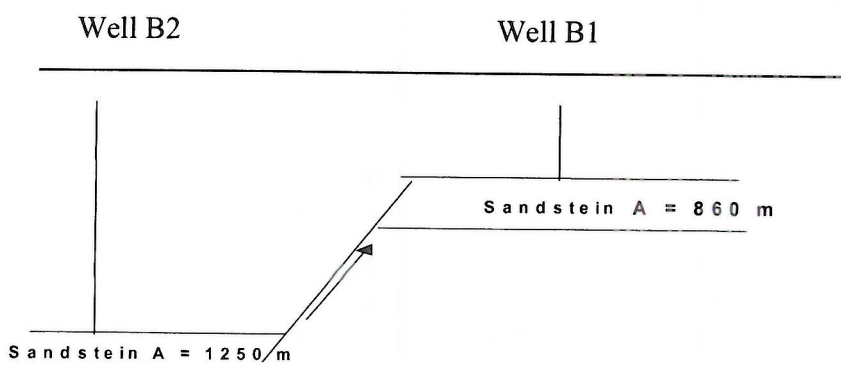

Figure 2 – Reservoirs separated by fault.
- c) Figure 2 shows two reservoirs that are separated by a fault. Initially both reservoirs were at the same depth and filled with oil of density 0.77 s.g. The reservoir pore pressure in well B2 is 165 bar. What is the reservoir pore pressure in well B1 if